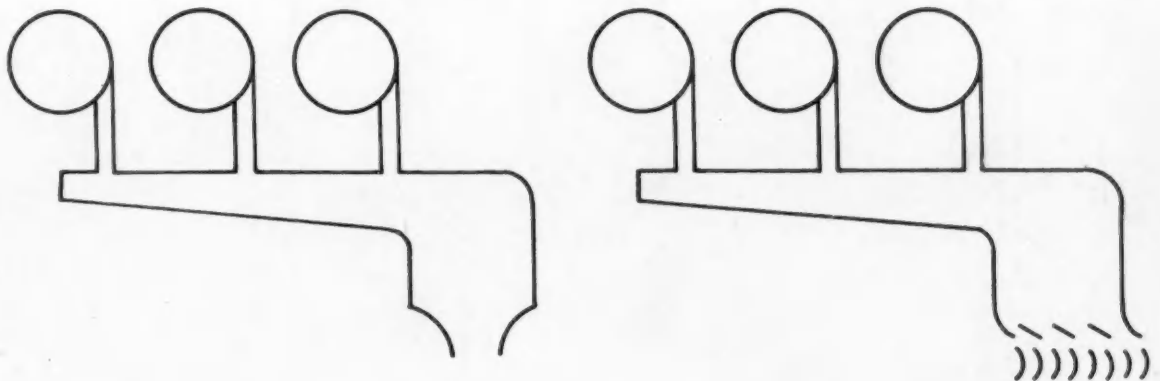

Fig. 3 - Pressure power recovery methods: A (left): pressure jet, B (right): pressure turbine
4. Pressure or steady-flow system (Fig. 3): This method of converting the energy to a useful form is quite similar to that just considered, since power can be recovered in a form of jet thrust by means of a turbine. The jet thrust of the pressure system is mainly of academic interest, for in general the pressure system requires some form of turbine for efficient recovery.